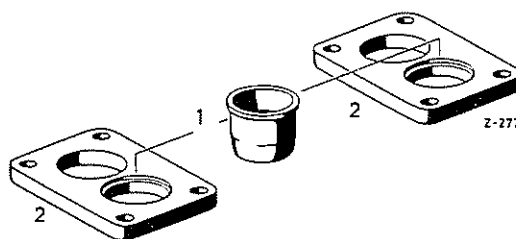

Fig. 01-4/2
Note: When the grey cast iron flange was installed, it was necessary to dispense with the upper insulating flange so as not to change the installation height of the carburetor. By way of compensation, a standard paper gasket, Part No. 180 071 00 80, is installed on these carburetors between the carburetor flange and the screening plate (Fig. 01-4/3).
6. Install the lower insulating flange, and in the case of Models 220 o and 219, the gasket on the intake pipe (Fig. 01-4/3).
On Model 220 S insert the air jet (1) in the first Stage bore of the upper insulating flange (2) (Fig. 01-4/2).